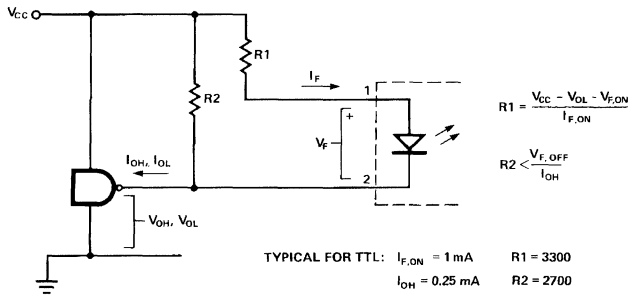
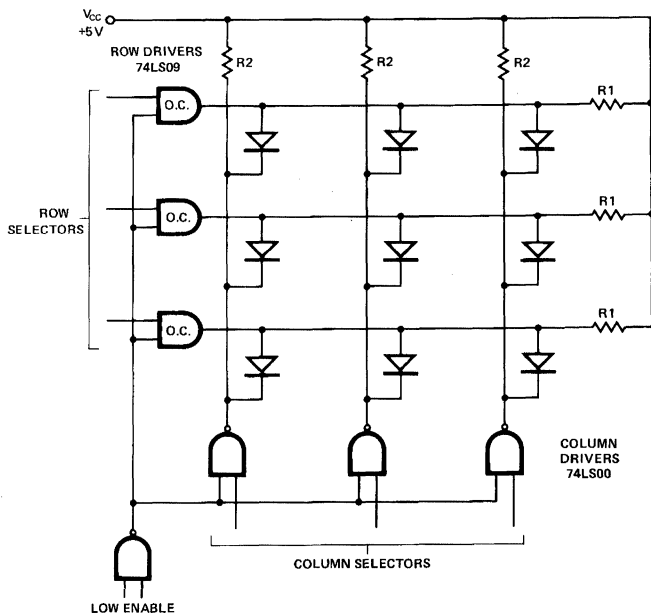
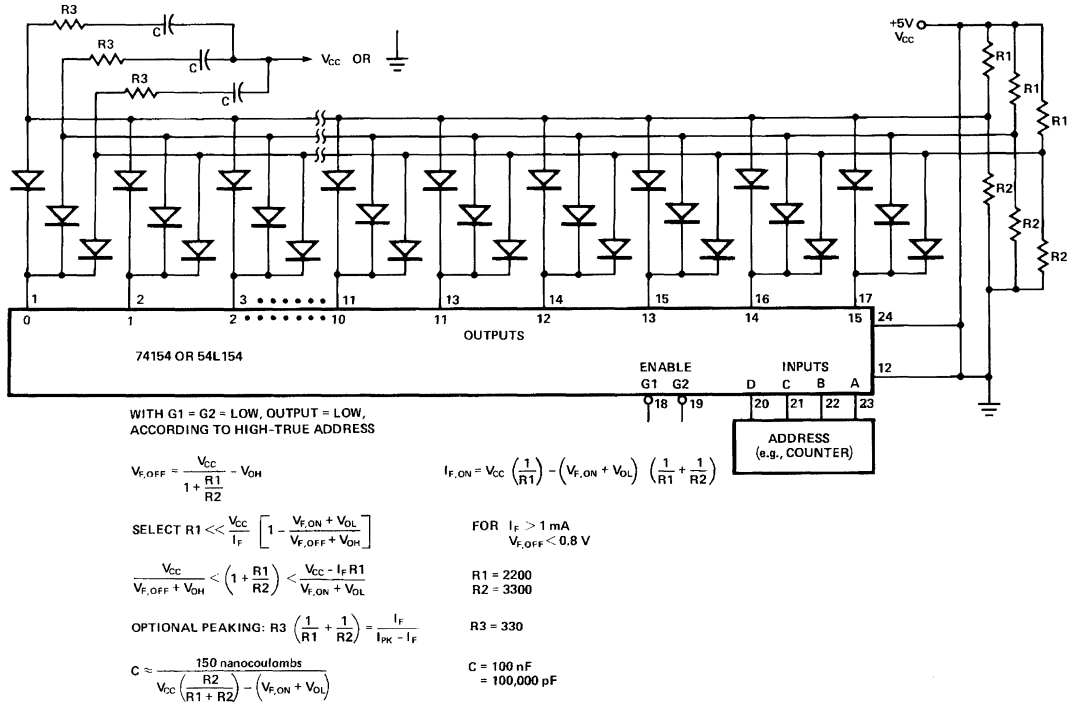
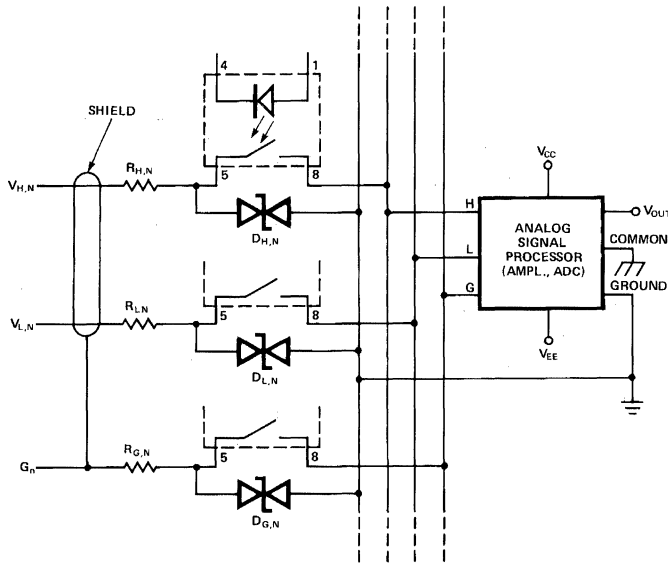

Figure 7. Logic-Driven Control Circuit.
Figure 10. Matrix-Driven Control Circuit.
Figure 11. Control Circuit for 16-Channel Multiplexer.
Figure 12. Contact Circuit for One Triplet of Several in Multiplexing.
the better-than-linear reduction in turn-ON time; there is also a slight reduction in turn-OFF time. A simple circuit for obtaining the desired ON current and OFF voltage is shown in Figure 7. The logic series used can be almost anything; any of the TTL logic family, open-collector or totem pole, will work in the arrangement shown. The same is true for CMOS, provided only that the current-sinking capability is adequate. R1 sets the level of forward current, independent of R2. The purpose of R2 is to bypass logic-high leakage current with sufficiently small voltage drop to ensure an OFF-voltage less than 0.8 V. In some cases R2 is not required; some logic outputs have internal pullup circuits that are able to satisfy the OFF-voltage requirement without the external pull-up provided by R2. With open-collector TTL outputs, R2 is always required because the HSSR-8200 can actually be operated (though at higher ON resistance) with just a few microamperes of forward current.
In computing the resistor values for this and other drive circuits a useful approximation for the relationship between the forward voltage and the forward current is given by: The circuit in Figure 7
Figure 10 shows a combination of series-shunt drive. The column drivers do the series switching and the row drivers operate in shunt mode. With the ENABLE input high, selection is made of desired row and column (high true) but the selected LED remains OFF until the ENABLE goes low. This provision is necessary to ensure "break-before make" operation of
the contacts. With turn-OFF time longer than turn-ON time, there must be a "dead" time of 0.2 milliseconds or more to prevent overlapping contact closure. The values of R1 and R2 are selected as described for the circuits of Figures 7 and 9, and, if desired, the R3,C peaking may be added in parallel with each R1.
The matrix arrangement in Figure 10 is worth considering only if a very large number of switches are to be selectively operated. To make a selection from a smaller number of switches, a much simpler circuit is shown in Figure 11, where a decoder/demultiplexer IC is used. The values of the resistors R1 and R2 are NOT computed in the same way as for the circuits of Figures 7 and 9. Here the principle is to select a ratio R1/R2 such that the forward voltage across the LED is less than 0.8 volts when the 74154 output is high, then establish this ratio with resistor values small enough to allow adequate forward current when the 74154 output is low. Actual selection of resistor values is most easily done by first selecting R1 with a large margin in the inequality to provide a wide range for selection of R2 to fit within the two sided inequality. If peaking is desired on any or on all three of the anode bus lines, the R3,C peaking circuit may be added with no effect on the choice of R1 and R2 values. The peaking circuit may be connected either to VCC or to ground. An important concern is operation of the ENABLE inputs of the 74154 decoder. Both of these must be low to make the output (selected by the address) go low. It is recommended that at least one of the ENABLE inputs be
In Figure 11 (also in Figure 10) the length of time that any individual contact is held closed may depend on how fast the contact circuit can respond to the contact closure. It depends also on the offset voltage property of the HSSR-8200 as a function of time following application of control current, shown in Figure 13. At the initial closure, heat from the LED produces a thermal gradient in the contact drive IC, causing
the offset voltage to begin increasing (negative polarity); after a few seconds, the offset voltage reaches a peak and then decreases as the thermal gradient disperses. The polarity of the offset voltage is consistent, however, so two sets of contacts in a differential arrangement will cause the offset voltage (either in steady state or during the transient) to be partially cancelled. For this reason the contacts should be arranged as in Figure 12, and the control LEDs should be driven in triplets, as in Figure 11. Two of the contacts perform differential signal
In some applications there is a possibility that the contacts may be exposed to destructively high voltages. One such situation is partially illustrated in Figure 12, where the HSSR-8200 is being used to select one set of inputs from among several and present this set to the Signal Processor. The differential inputs (H and L) are shielded by a guard (G) driven by the Processor. When open, the